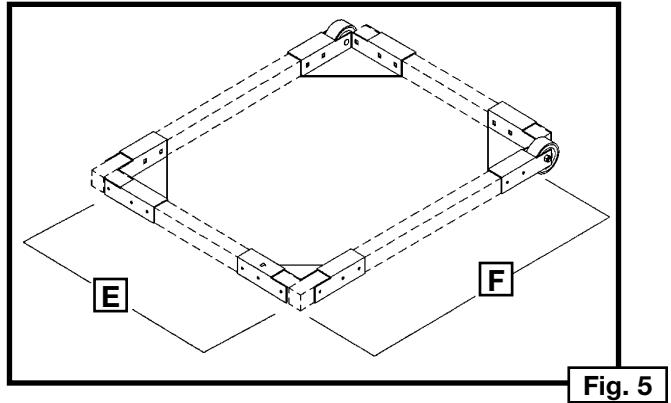

Fig. 5
4. Measure the machine's footprint. Add 1/2" to the width (E) Fig. 5 to accomodate the machine. Cut TWO pieces of 1-1/2" x 1-1/2" hardwood (preferably oak, maple, or cherry). These boards (E) Fig. 5 will be the end sections of the mobile base.
5. Cut TWO pieces of 1-1/2" x 1-1/2" hardwood (F) Fig. 5 to the length of your measurement. These boards (F) Fig. 5 will be the sides of the mobile base.